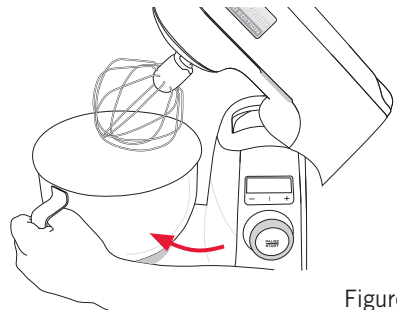

Figure 3
4. Place the bowl on the base with the handle facing you. Then gently rotate the bowl in a clockwise direction until it locks into position (Fig 3). The bowl should feel firm with no movement.